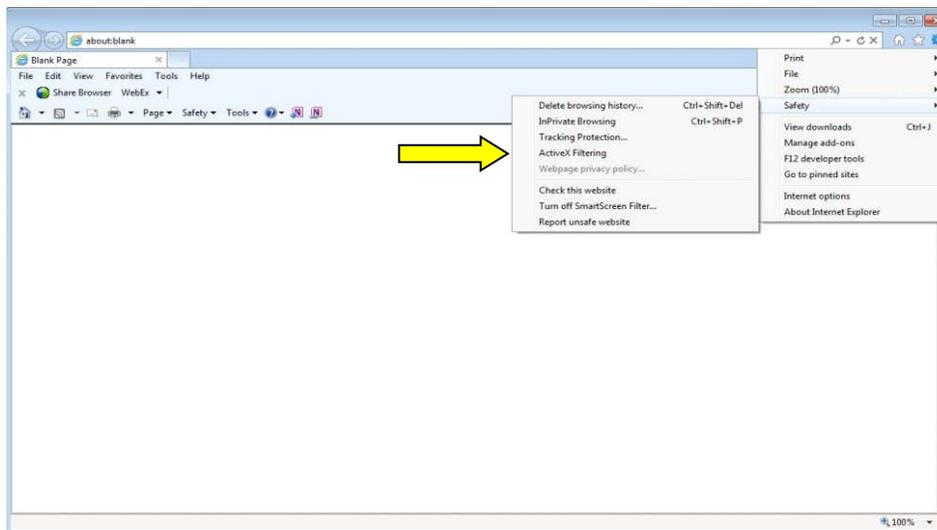

Figure 5-12: Clearing **ActiveX Filtering** in Internet Explorer 9
c. Clear the setting for **ActiveX Filtering**, as shown in Figure 5-12.